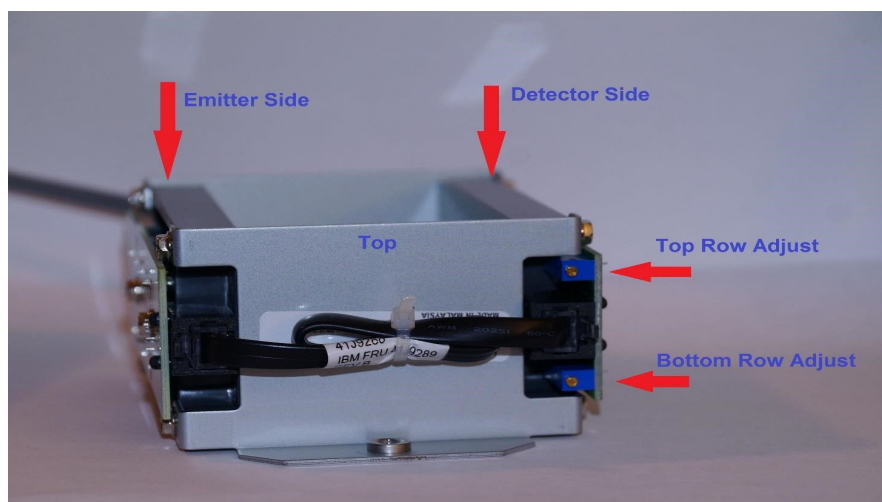
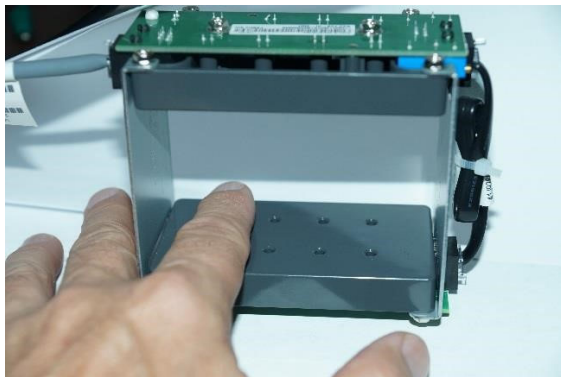

Figure 3
Figure 3a: Column 1
To adjust the top and bottom values use the two potentiometer adjuster screws (Figure 3). Turn clockwise to increase values and counterclockwise to decrease the values. Once the values for the top and bottom row are between 0370 and 0390 then proceed to step 5.
**When calibrating the coupon sensors, do not place the coupon assembly flat on the table as shown in Figure 3. Hold in your hand or place vertically on the table as shown in Figure 5a. Figure 3 is just indicating the potentiometer and sensor locations.**
Note: If you did not have to remove the coupon assembly to calibrate the potentiometers, you may perform the BLOCK TEST with the coupon assembly installed in the lane. It will require some dexterity. For cashless lanes: remove front cover of core module. Reaching from under the scanner scale drawer locate the coupon box. The left side of coupon box (scanner scale side) are the emitters. Using your finger as shown below, you can block each row of sensors. For a cash lane it is much more difficult. You will need to extend the scanner scale drawer forward and reach your hand up and in the cash module next to the recycling coin handler to get access to the coupon assembly. On the emitter side of the coupon assembly (Emitter side is identified in Figure 3), block each of the four columns as shown in figure 3a-3d with a non-transparent and non-reflective item. (Use of finger is acceptable). Monitor the top and bottom values on the coupon diagnostics screen